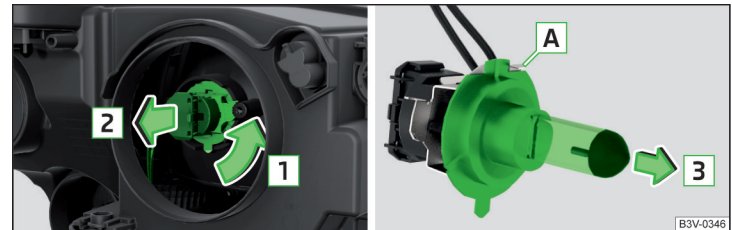

Fig. 364 Removing bulbs for low and main beam
- › Turn the holder with the bulb in the direction of arrow **1** » Fig. 364.